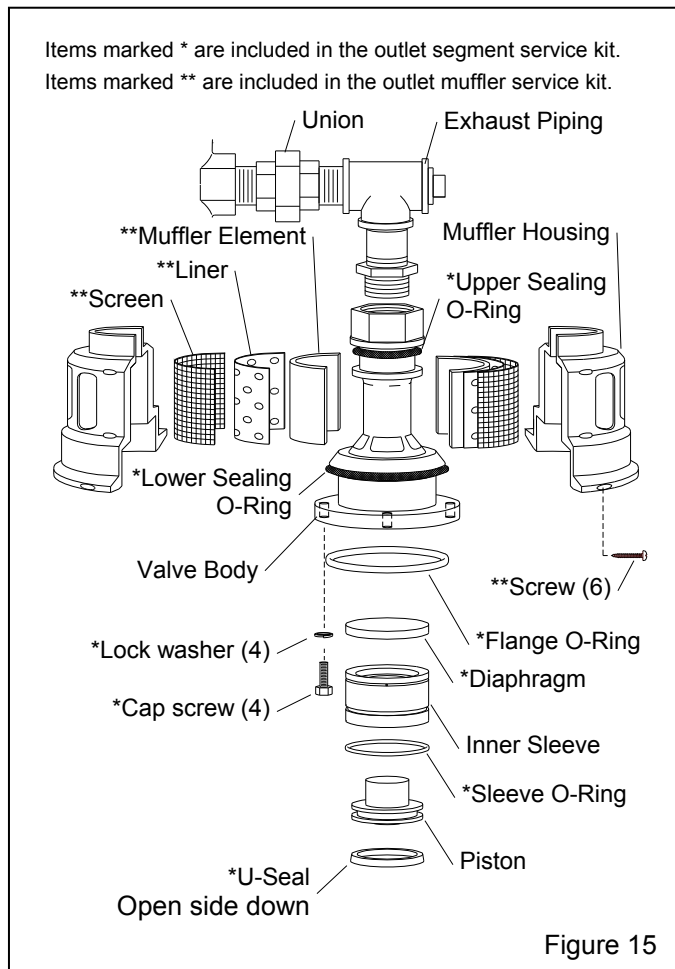

Figure 15
6.4 Millennium Valve Outlet Segment, Figure 15
6.4.8 Lubricate the u-seal with a silicone-based lubricant, and place the u-seal into the groove in the piston. The open side of the seal must face the bottom of the piston, as shown in Figure 15.
6.4.12 Slide the piston and sleeve assembly into the valve body, the piston faces away from the bottom of the body, as shown in Figure 15.
6.5 Exhaust Muffler, Figure 15